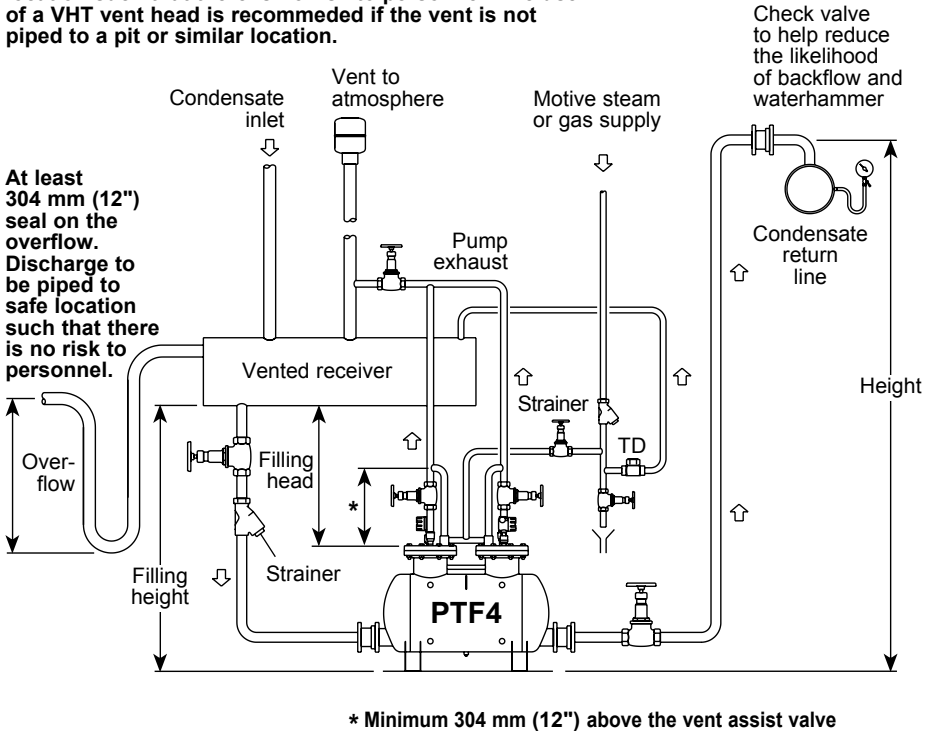

Fig. 2 Typical installation - Vented pump system
A receiver overflow piping should be installed as shown in Figure 2 and piped to a suitable drain. The piping must form a loop type water seal at least 304 mm (12") deep immediately after the receiver.
- 3.5.1 Install the pump physically below the receiver to be drained with the exhaust connection vertically upwards. The pump should be installed with the recommended filling head (the vertical distance between the top of the pump and the bottom of the receiver) as shown in Figure 2. For other filling head variations, see the Capacity Table on TI-P135-13.
- 3.5.2 To prevent equipment flooding during the pump discharge stroke, a vented receiver should be installed in a horizontal plane ahead of the pump as shown in Figure 2. For the correct receiver sizing, refer to Table 1. All inlet line fittings must be fully ported.
- 3.5.5 Any horizontal runs in the exhaust line should be pitched so that the line is self-draining. The exhaust line should be piped, unrestricted, to atmosphere as shown in Figure 2.